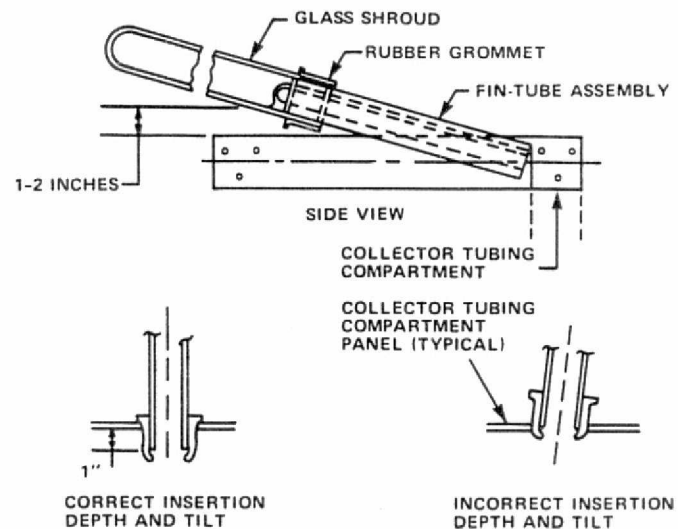

Figure 5-1. Glass Shroud Installation
in Figure 5-1. Excessive deflection will damage the collector. Slide the plastic shroud off and discard.
- b. Center the open end of the glass tube over fin assembly and slowly slide on, (Figure 5-1).
7. Seat the glass tube and grommet into the hole in the collector panel, (Figure 5-2). Insure that the grommet is completely seated (snapped in place) for weather protection, (Figure 5-1).
Remove the spring clip, (Figure 5-3), holding the shroud (vacuum tube) in place. The clip is flexed into two holes provided in the collector vee-trough reflector. Deflect the tube to be replaced upward no more than 1 to 2 inches from the edge of the collector and away from the vee-trough, (Figure 5-1). The tube will now slide off the collector fin-tube in the direction away from the header assembly. The boot on the tub tube at the header end of the collector should be removed with the tube being replaced as the new tube will contain a new boot. If the old tube is broken, be sure to clean the reflector completely and wipe down the fin assembly. After wiping down the fin-tube to eliminate all grit, the new tube is simply slid over the fin-tube, seating the boot into the bulk-head hole. Re-install the spring clip.